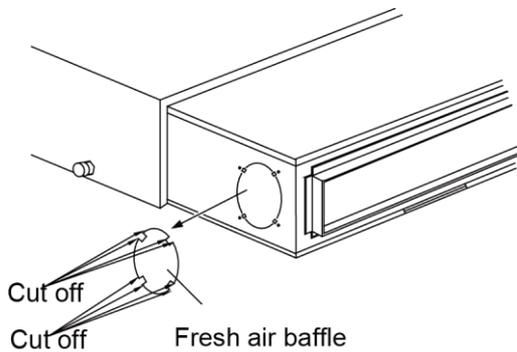

Fig 4.4.9
- (1) When the fresh air pipe is needed to be connected, cut the fresh air baffle as Fig 4.4.9.